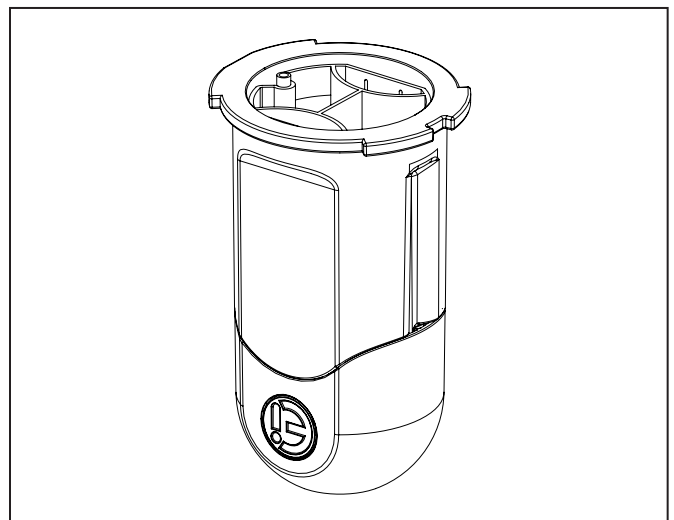

Figure 29. Invert the Cell
7. Refit the cap on the cell and invert (see Figure 29).